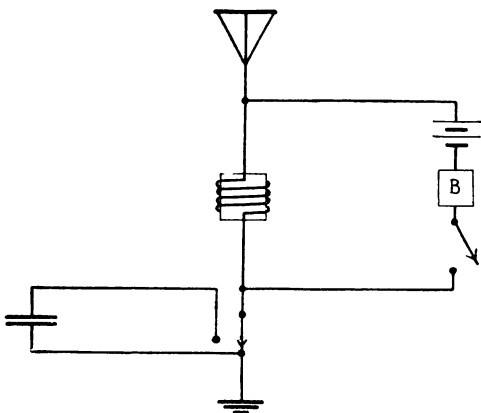

Fig. 6.—A More Exact Method of Determining the Capacity of an Antenna.
and ground, with a buzzer around the coil, Fig. 6. The wave-length of the circuit is measured, giving a value λ_1 . Then a series condenser of known capacity, C_1 , is inserted, and the wave-length taken again, λ_2 . C , the capacity of the antenna, is determined by substituting and solving (25).
formulas in Section 9. Measurements of inductance can be made with the circuit in Fig. 6, using a known inductance in place of the condenser.